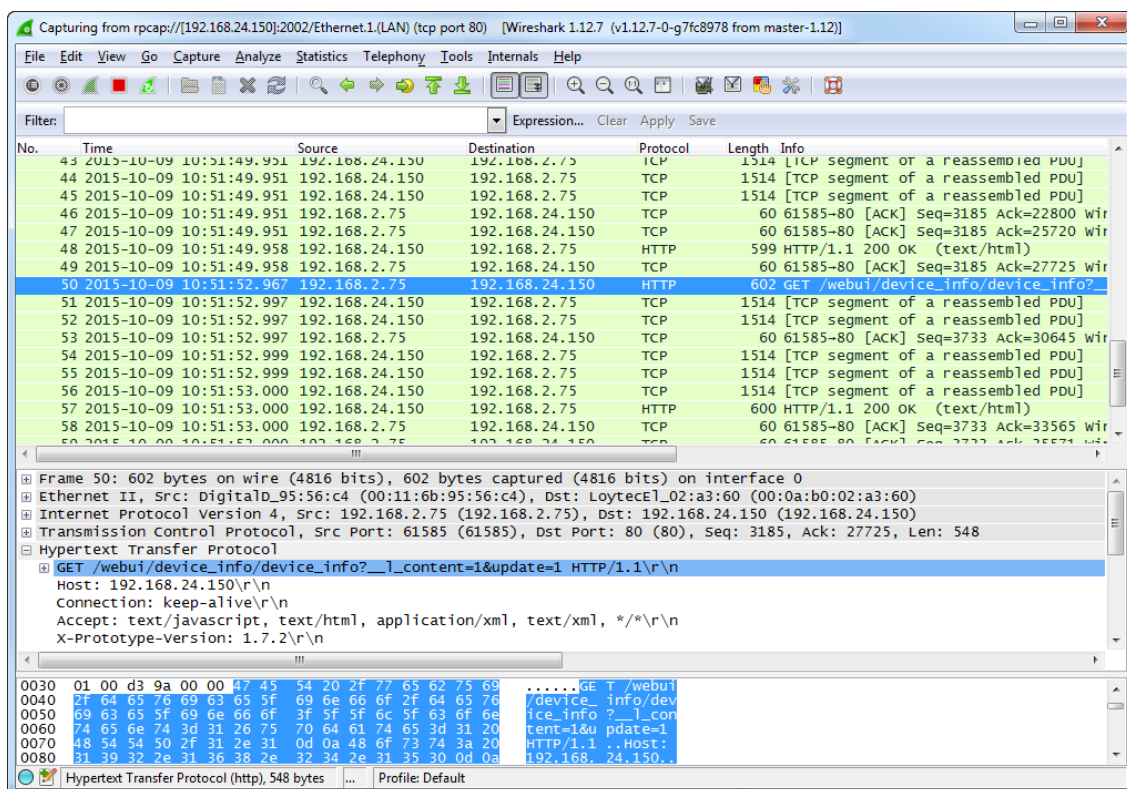

Figure 168: Example Ethernet remote capture in progress.
3. Wireshark will attempt to establish a connection to the device and, if successful, start displaying packets. An example capture is shown in Figure 168.